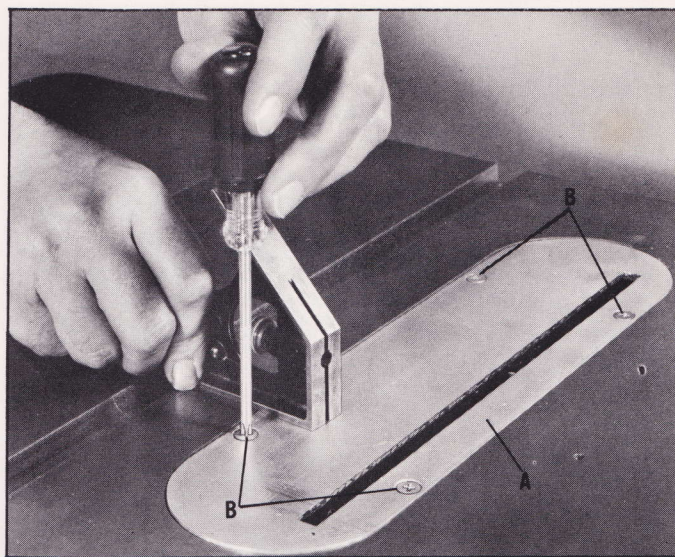

Fig. 4
The table insert should always be flush with the table top. To adjust the table insert (A) Fig. 4, use a Phillips head screw driver and turn the adjusting screws (B) in or out until the insert is flush with the table, as shown in Fig. 4.